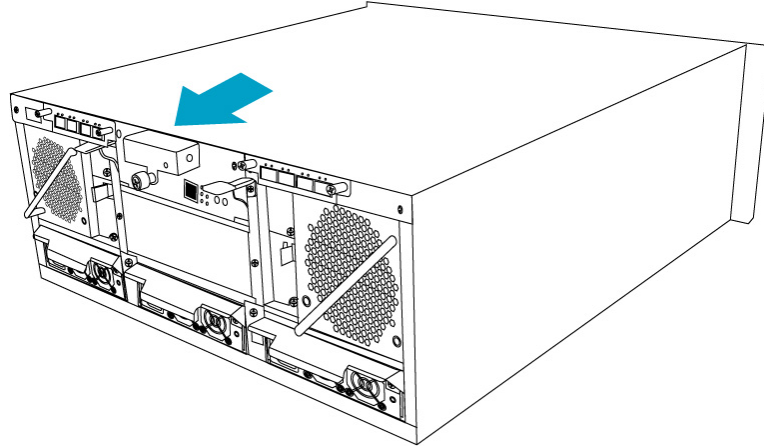

Figure 2-2: Removing the BBU Module
- Step 2. **Remove the pre-installed BBU module.** Use a Phillips screwdriver to loosen the retention screw that secures the BBU module to the enclosure chassis and carefully remove the module. Carefully place the module for it contains Li-ION batteries. Do not drop it to the floor or place it near any heat source or fire. (See *Figure 2-2*)